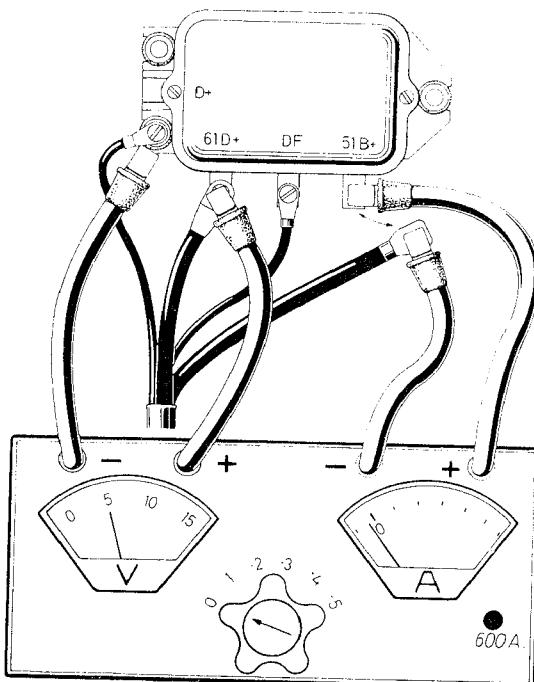

Fig. 10
1. Set regulator to zero. Connect battery lead "S1 B+" (insulated until now) to negative lead of ammeter. Connect positive lead of ammeter to terminal "B S1+" of the regulator (Fig. 10).